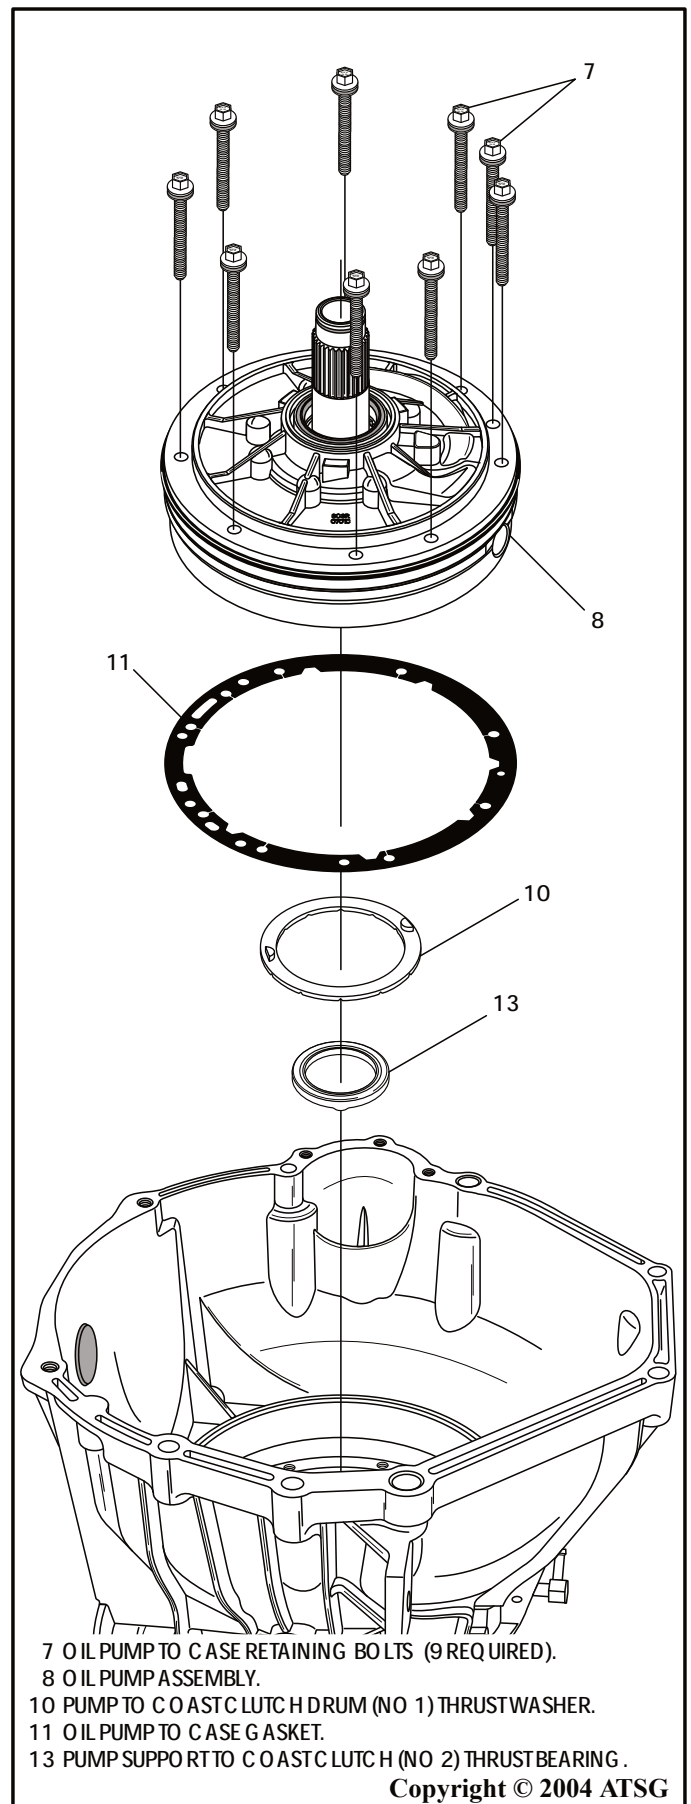

Figure 39
23. Rotate transmission in fixture so that the bell housing is facing up, as shown in Figure 39.
24. Remove the nine oil pump to case retaining bolts, as shown in Figure 39.
25. Remove the oil pump assembly using slide hammer as necessary (See Figure 39).
26. Remove and discard oil pump to case gasket, as shown in Figure 39.
27. Remove the pump support to coast clutch drum (No. 1) thrust washer (See Figure 39).
28. Remove the pump support to coast clutch drum (No. 2) thrust bearing (See Figure 39).